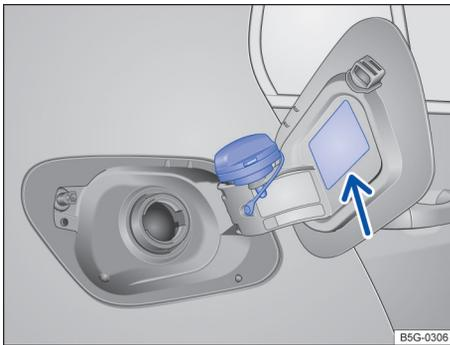

Fig. 150 Rear passenger side of vehicle: Fuel cap placed on the open fuel filler flap.
- Unscrew the fuel cap counterclockwise and remove. Use the slot on the fuel filler flap hinge → fig. 150 to hold the cap while refueling.
The minimum required fuel grade for your vehicle → page 222, *Fuel types* is listed on a sticker on the inside of the fuel filler flap → fig. 150 (arrow). This
The minimum required fuel grade for your engine is shown on a sticker on the inside of the fuel filler flap → fig. 150.